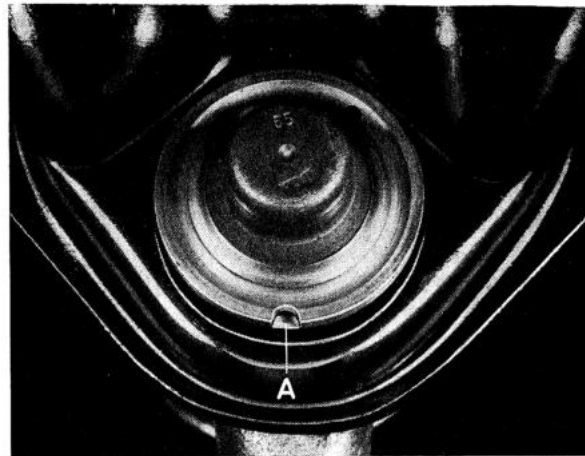
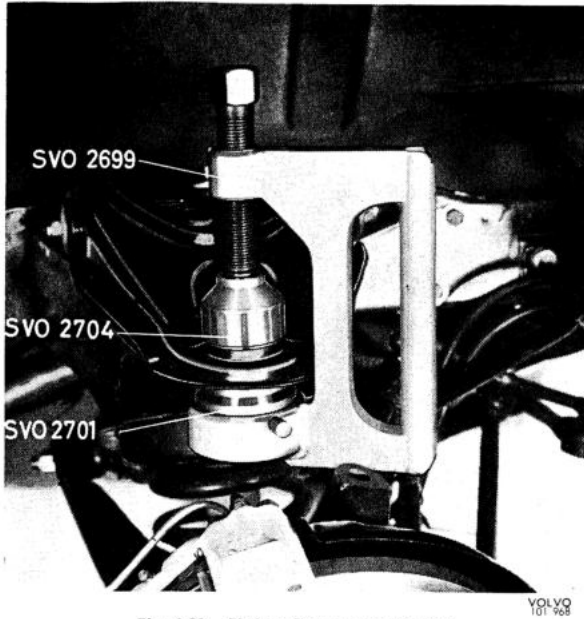

Fig. 6-22. Location of ball joint in upper wishbone
Fig. 6-23. Fitting the upper ball joint
1. Before fitting the ball joint, check that the rubber seal is filled with grease. Bend the pin end over the slot (A, Fig. 6-22) and check that the grease forces its way out. If necessary, top up with multi-purpose grease.
2. Press the ball joint into the wishbone with press tool SVO 2699, sleeve 2701 and drift 2704, see Fig. 6-23. Make sure that the ball joint recess coincides with the longitudinal shaft of the wishbone either externally or internally (Fig. 6-22) as the pin has maximum movement along this line. Should the ball joint be incorrectly fitted when being pressed in, turn the tool SVO 2699 half a turn and then press the ball joint into the correct position. The